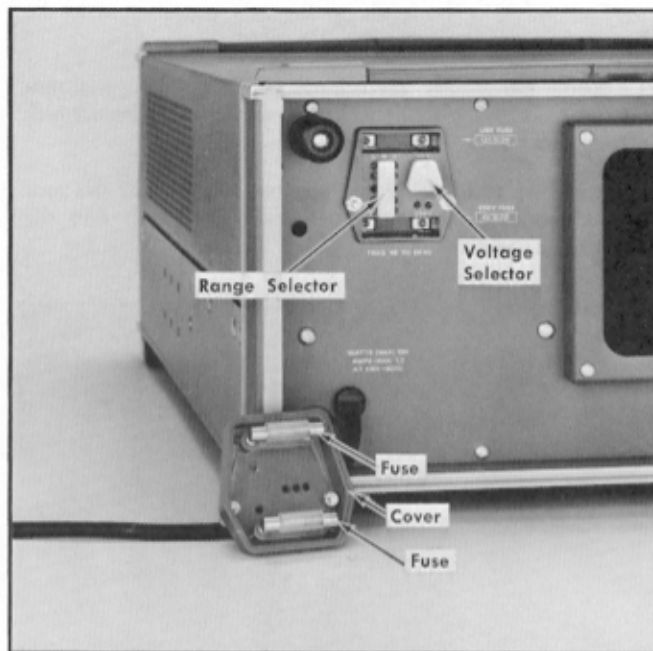

Fig. 2-1. Line Voltage Selector assembly with cover removed. Shown set for 115-Volt medium-range operation.
4. To change regulating ranges, pull out the Range Selector switch bar (Fig. 2-1), slide it to the desired range and plug it back in. Select a range which is centered about the average line voltage to be applied (see Table 2-1).